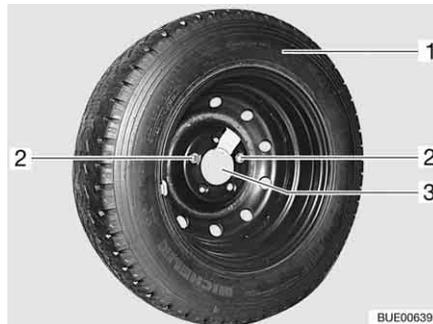

Fig. 284 Spare wheel support in the rear garage
- Loosen and remove both fixing screws (Fig. 284,2) with the on-board tool set.
- Remove the spare wheel (Fig. 284,1) from the support (Fig. 284,3).